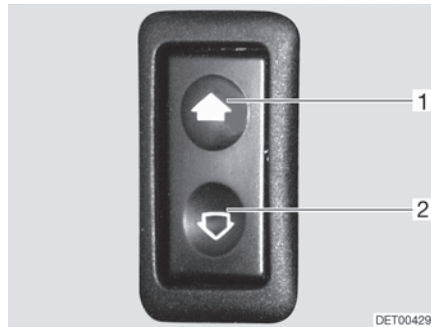

Fig. 18 Switch for electrical window winders
- Opening:* ■ Press the lower part (Fig. 18,2) of the switch.
- Closing:* ■ Press the upper part (Fig. 18,1) of the switch.